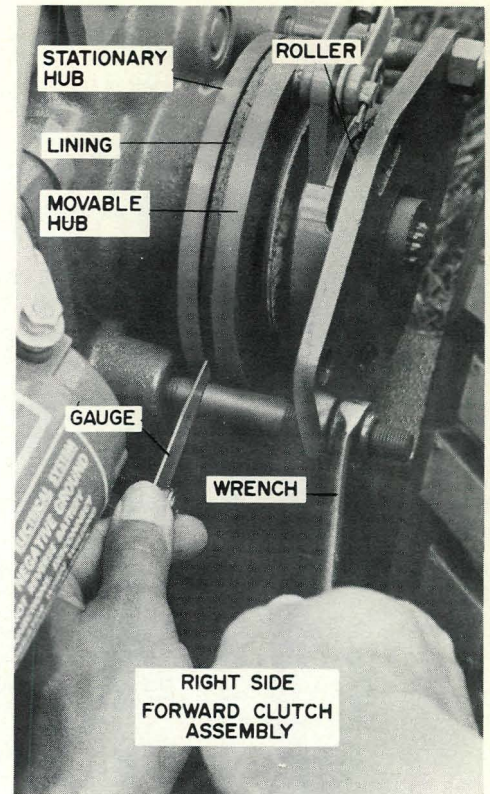

Figure 18
2. Gap must be equal alround. Uneven wear will result in clutch failure. See fig 18 and 19.